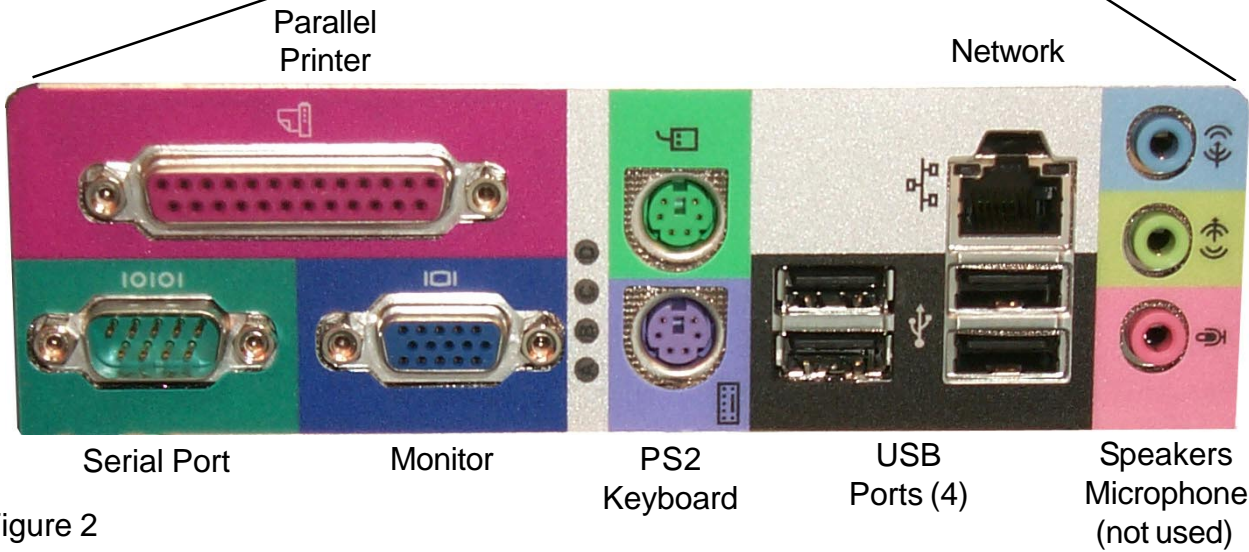

Figure 2
10. Inspect the routing of all cables from each of the above peripherals to the rear of the PC. Refer to the drawing detail in Figure 2 for proper cable connections.